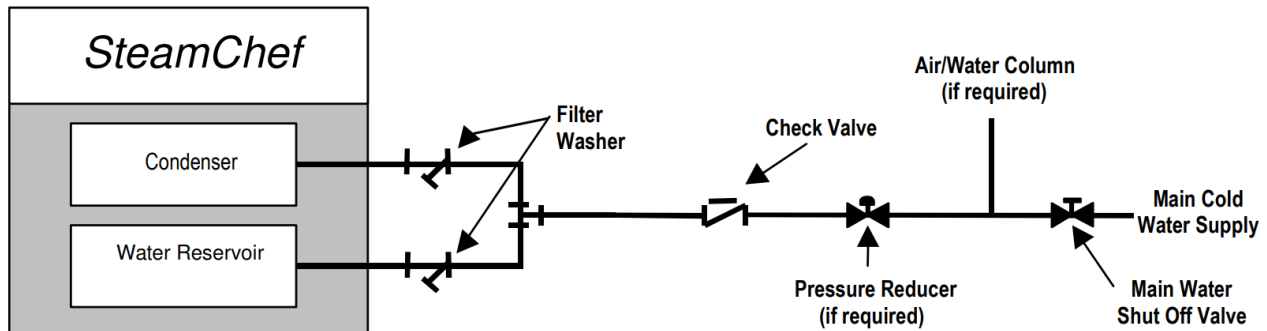

Figure 3-5 Cleveland Range Single Water Supply Arrangement
- d) If the water supply meets requirements shown in the Warranty, then the Single Water Supply Arrangement shown in Figure 3-5 may be used.
- v. Cleveland Range recommends the plumbing layout in either Figure 3-5 for installations using a